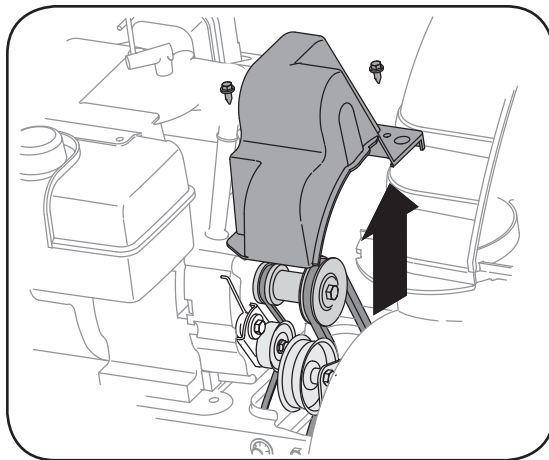

Figure 6-9
- The augers are secured to the spiral shaft with two shear pins and cotter pins. If the auger should strike a foreign object or ice jam, the snow thrower is designed so that the pins may shear. Refer to Figure 6-9.
1. Remove the plastic belt cover on the front of the engine by removing the two self-tapping screws. See Figure 6-9.